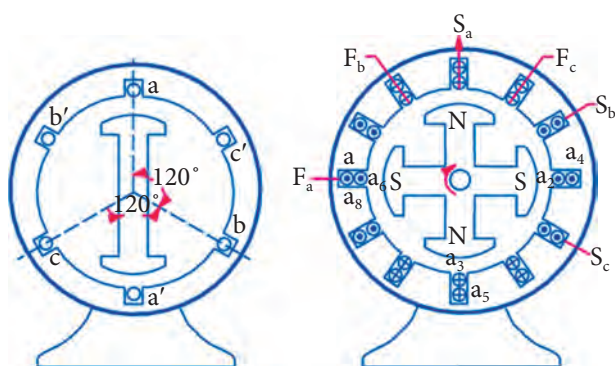

Fig 5.13 Poly Phase System Generation
3 phase A.C generator is shown in Fig 5.13. Three identical windings A,B and C are placed 120° electrical degree apart. It rotates in anti-clock wise direction. It generates 3 phase supply. Three phases are indicated in Red (R), Yellow (Y) and Blue (B) colors.